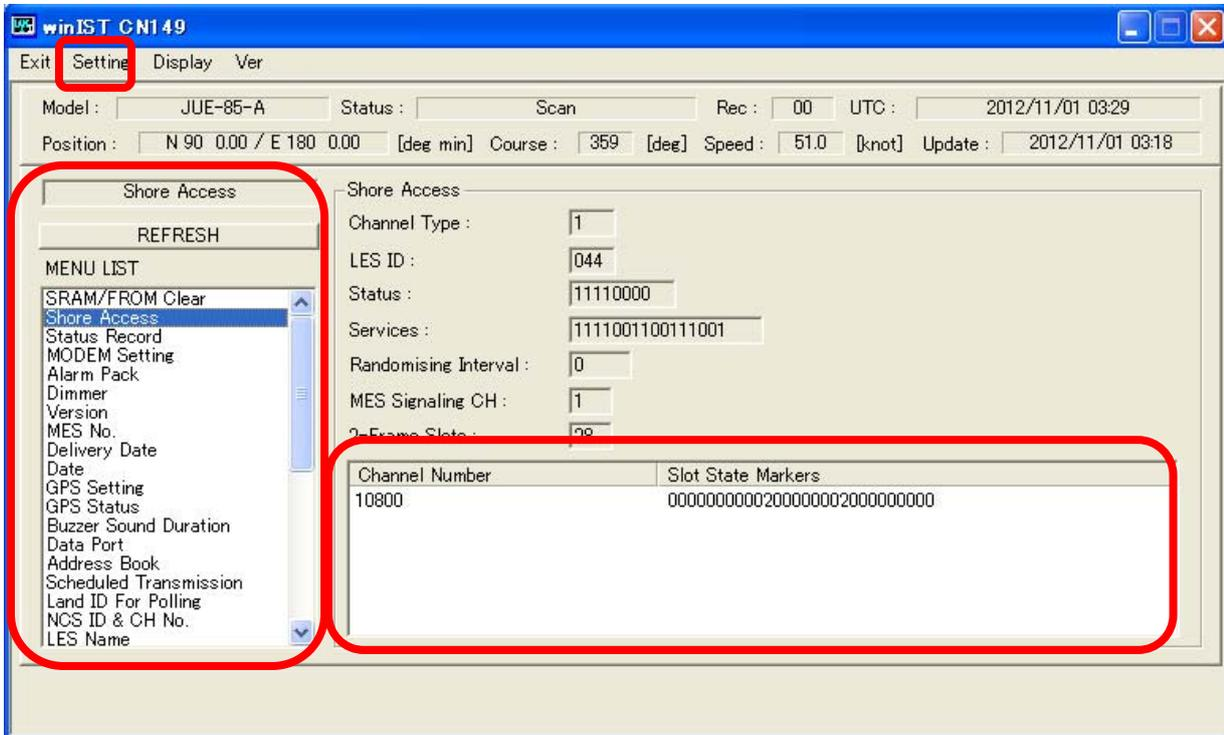

Fig. 4-3a [Shore Access] screen
2. Operation except [Exit], [Display], and/or [Ver] is not possible while winIST is communicating with INMARSAT terminal(the function in the frame of **Fig. 4-3a [Shore Access] screen** cannot be operated.)